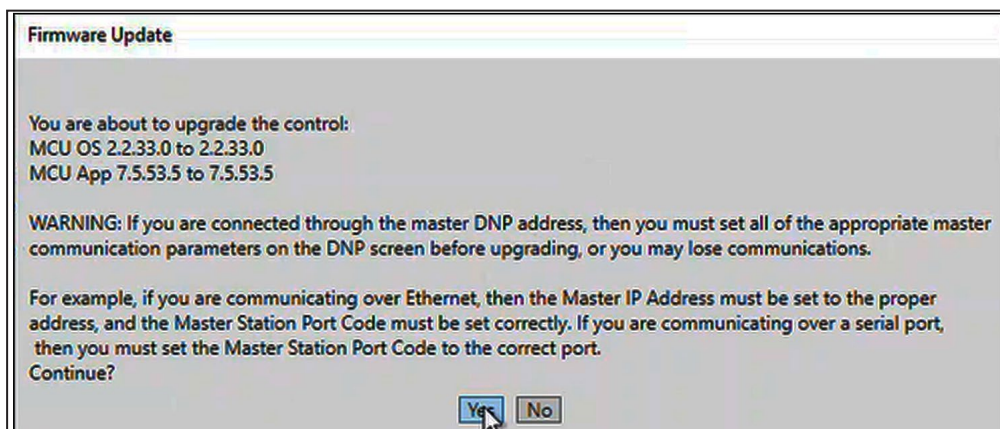

Figure 19. The Firmware Update dialog box.
STEP 7. The Firmware Update dialog box will prompt for selection of the update method. Click on one of the options to proceed. See Figure 19.